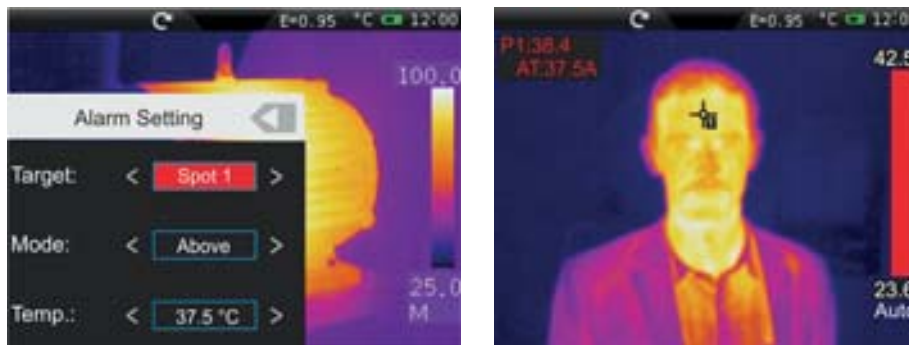

Fig. 73: Visualization of alarm condition in Screening function
4. Activate the alarm condition and set the maximum temperature threshold associated to one measurement spot (see Fig. 73 – left part)
8. Frame the subject on test at a recommended distance of 1m. With subject temperature higher than the set alarm threshold value the following actions are performed by the instrument (see § Fig. 73 – right part):